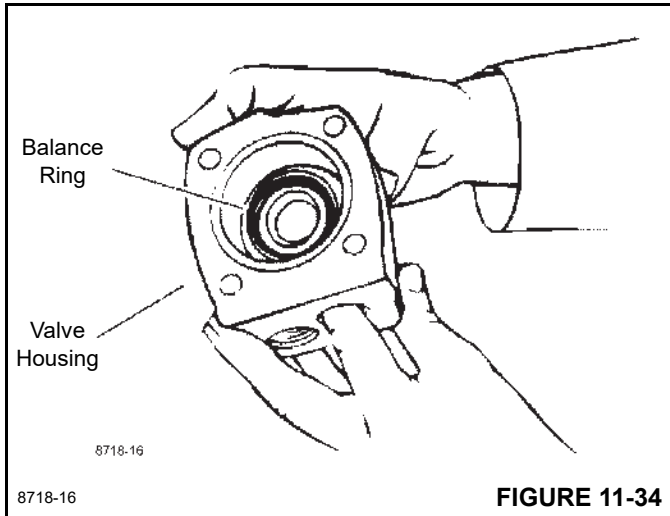
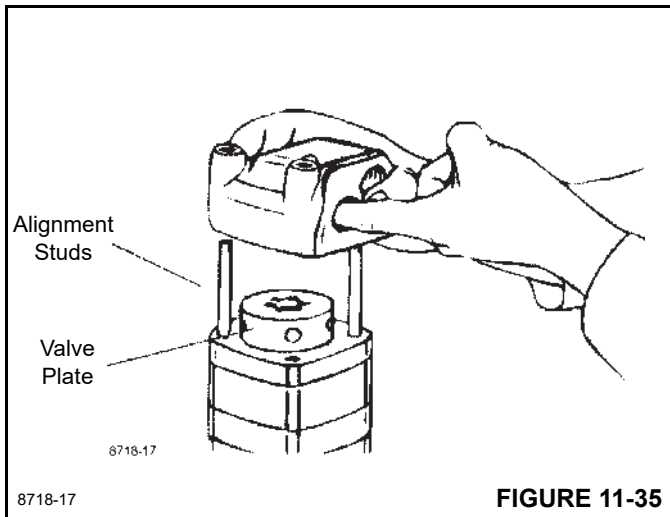

FIGURE 11-34
FIGURE 11-35
19. Insert your finger through port of valve housing. Apply pressure to side of balance ring as shown in Figure 11-34. Hold ring in position until valve housing is in place against valve plate (see Figure 11-35).